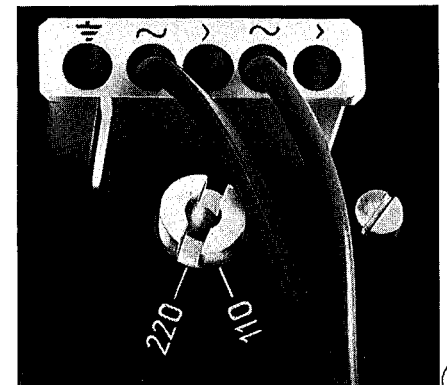

Fig. 2
B. No. 312 982; AMP-No. 160 565/1 (Fig. 2) for 5-pole power supply plug